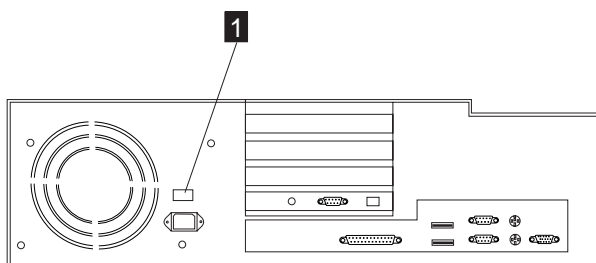

Figure 1-1. Power Switch
3. ____ **Attention:** Before connecting the NAS to the power plug, check the setting of the voltage selection switch **1** at the rear of your NAS (refer to Figure 1-1). If you set this switch to the wrong position, you might damage your NAS when you turn it ON. If you need to adjust the voltage setting, use a ballpoint pen to slide the switch to the correct position.